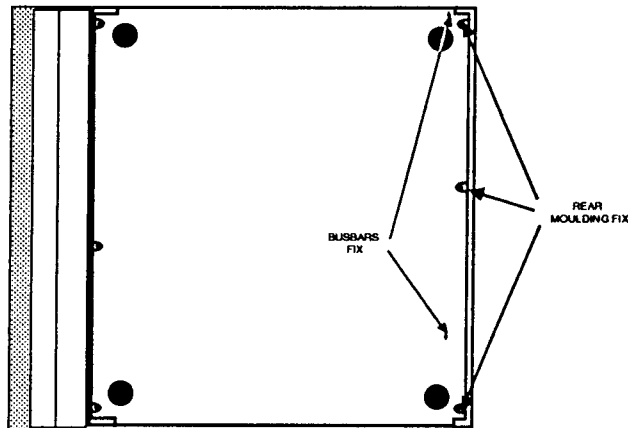

FIG. 3
8. Stand the unit up on its left side and remove the two screws and star washers from the underside securing the rear bus bars (see fig. 3).